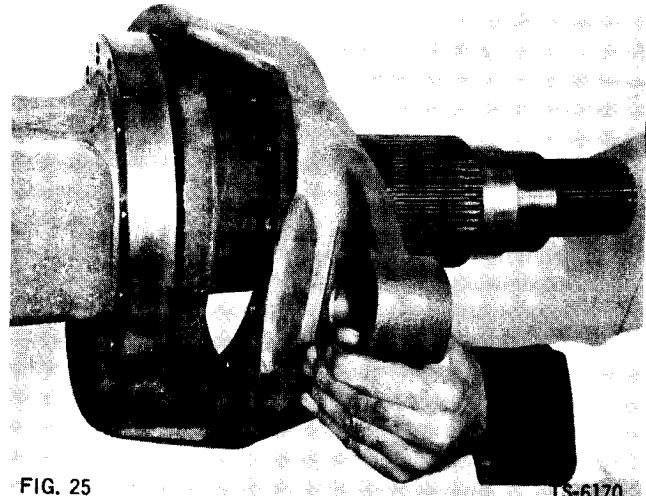

FIG. 25
25. Remove brake spider from spindle (Fig. 25).